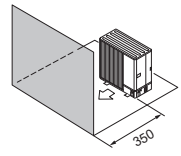

Fig. 2-9
- (4) Obstruction or closed surface at front only (Fig. 2-9)